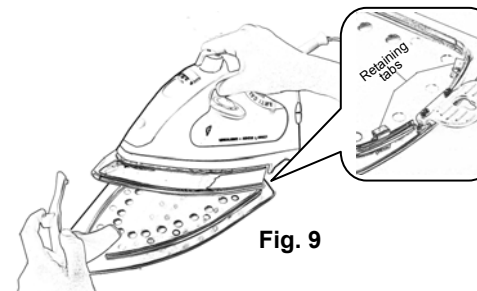

Fig. 9
- Lower the nose of the iron and close the soleplate clamp to secure the iron in place. See figure 9.